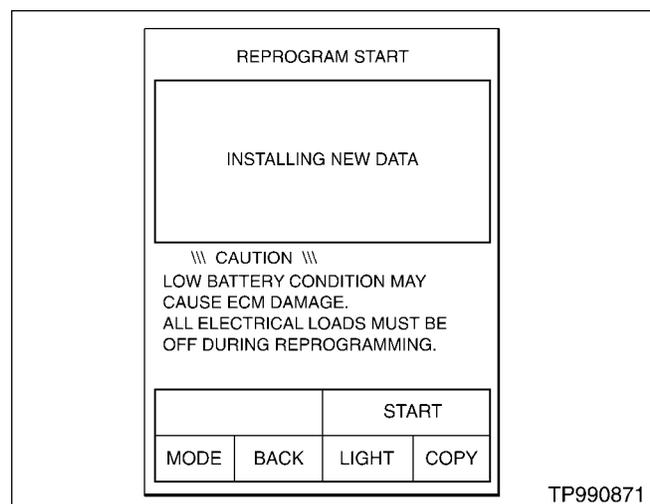

Figure 17
25. The "REPROGRAM START" window should appear (see Figure 17).